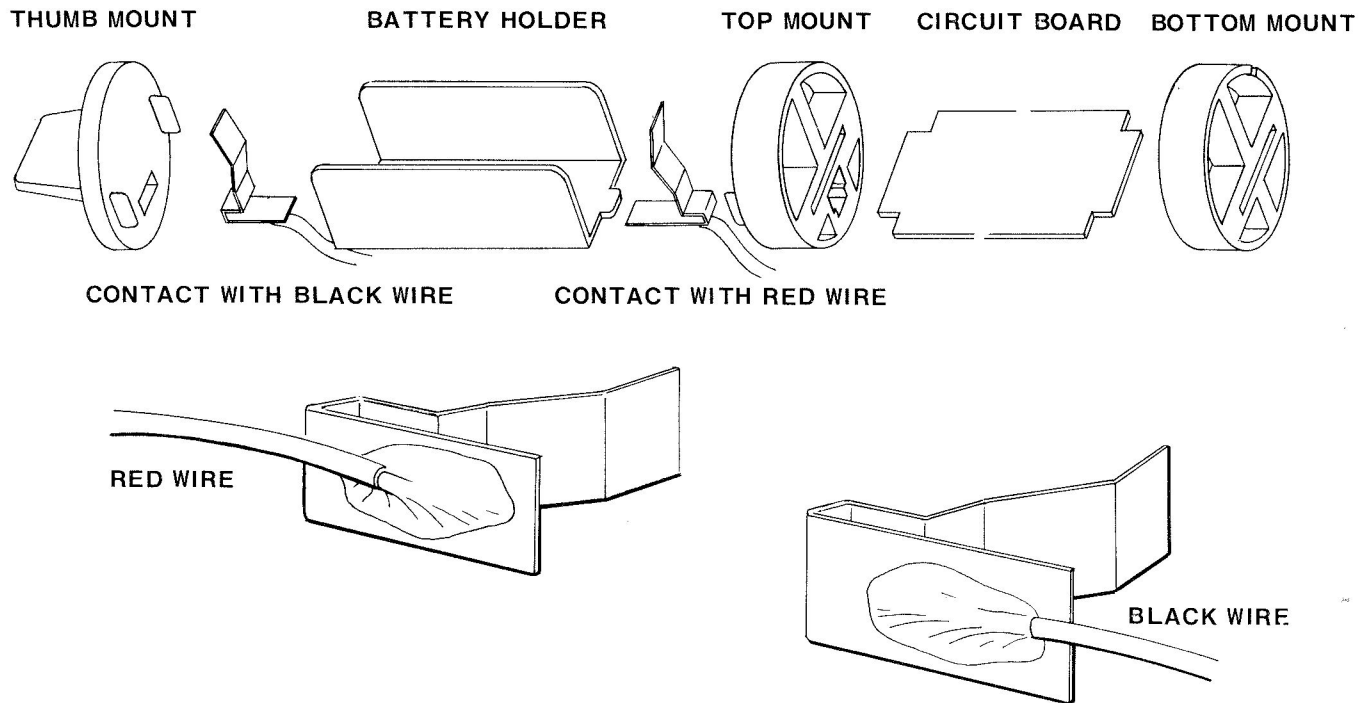

FIG. 4 TRANSROC FINAL ASSEMBLY (INSTALLATION OF PLASTIC PARTS, ETC.)
37. ( ) Locate the plastic molded parts and two brass contact strips. These are identified in Figure 4. Refer to this illustration to complete the TRANSROC assembly-